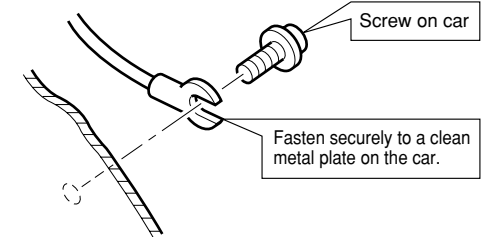

Figure 10
3. When connecting the ground lead, fasten the ground lead (black) securely to a clean metal plate on the car. (Figure 10) If the set is insufficiently grounded, it may not operate or there may be noise.